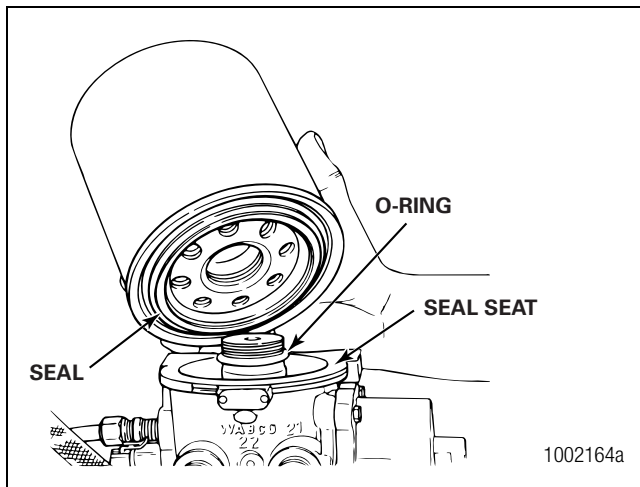

Figure 3.2
7. Thread replacement cartridge onto the base until the seal touches the base. Then, tighten the cartridge **ONE** additional turn. **DO NOT OVERTIGHTEN.** Figure 3.2.